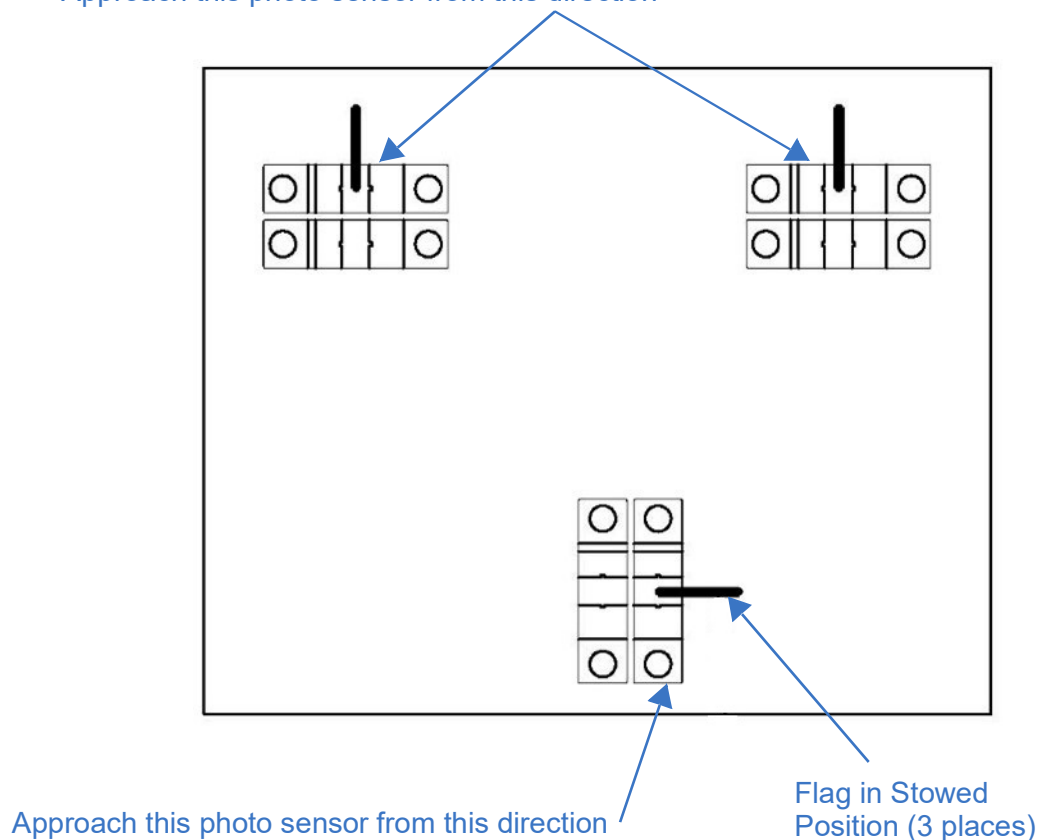

Figure 7-4 RCP PCB Photo Sensors
5. The pan and tilt functions have two photo sensors for each function. It is important that the flags engage the correct photo sensor from the proper direction when setting the home position (Figure 7-4). To set the Tilt Home Position, turn the timing ring on the tilt shaft such
that it rotates down toward the upper photo sensor (see Figure 7-4). As you approach the sensor, watch the controller. As soon as the "Tilt Down" LED goes out, stop rotating the ring and tighten the set screw. This should be roughly 80% penetration into the sensor with the flag. Repeat for the other tilt shaft.
6. To set the Pan Home Position, turn the flag counterclockwise (looking from above the RCP) until the "Pan Right" LED goes out (see Figure 7-4). Tighten the adjustment screws to secure the ring.